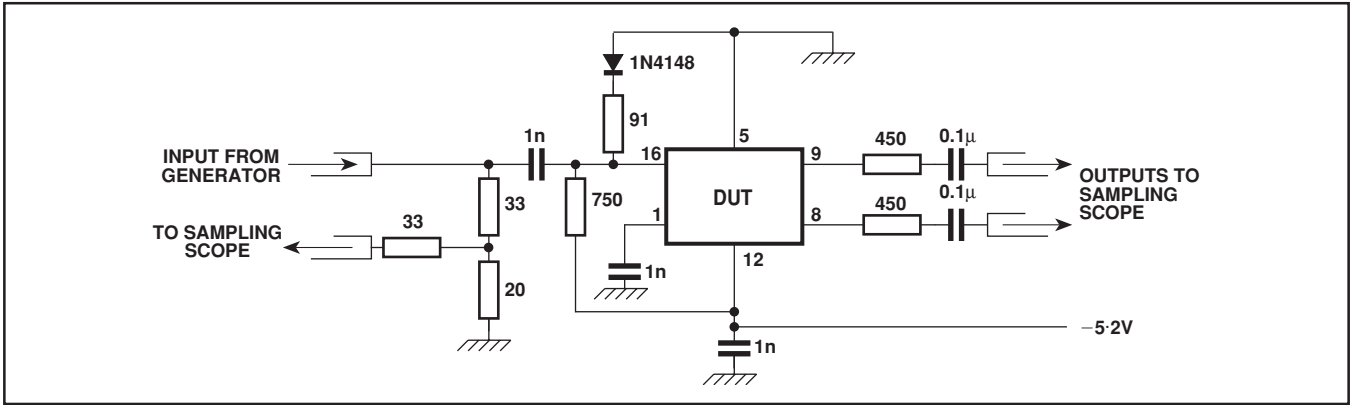

Fig. 6 Test circuit
2. The test configuration for dynamic testing is shown in Fig.6.
1. The clock and control inputs are ECLIII compatible. There is an internal pulldown resistor to  $V_{EE}$  of 4.3kΩ on each input and therefore any unused input can be left open circuit. If it is desirable to capacitively couple the signal source to the clock then an external bias is required as shown in Fig. 6. The external bias voltage should be -1.3V at 25°C.